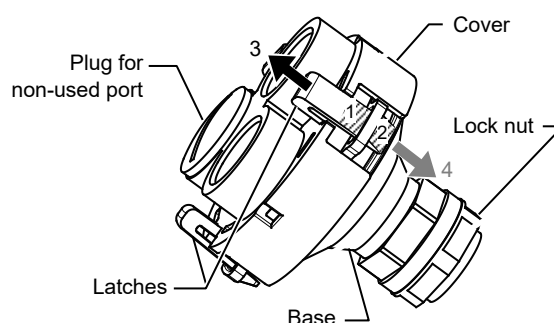

Figure 30. Cover removal from the base
- To use a magnetic counter with a relay coil, refer to Fig. 30 and connect a protection diode to the input of the magnetic counter.
- 1) Attach the cover to the base by simultaneously inserting the 3 male latches of the cover to the 3 female latches of the base. Equally press the force on each latch to the direction '4' in Fig. 30.
- 3) Check that all of the latches are completely locked. If the latches are not completely locked yet, press the force on the latches to the direction '4' in Fig. 30 so that the latches are completely locked.